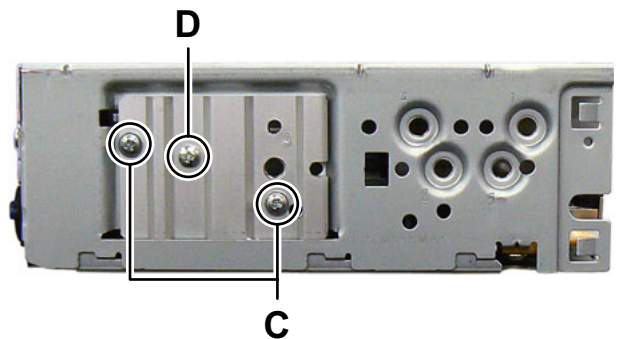

Fig.3
- (2) Remove the two screws **C** and the one screw **D** attaching the HEAT SINK. (See Fig.3)
### 3.2.2 Removing the top cover (See Fig.3 to 5)
- (1) From the front side of the CD MECHANISM assembly, change the hook position of the two roller springs. (See Fig.3.)
- (2) From the side of the CD MECHANISM assembly, remove the six screws **C** attaching the top cover. (See Fig.3 and 4.)